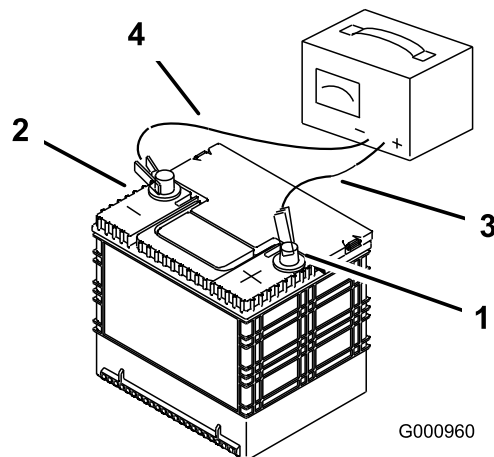

Figure 52
2. When the battery is fully charged, unplug the charger from the electrical outlet, then disconnect the charger leads from the battery posts (Figure 52).